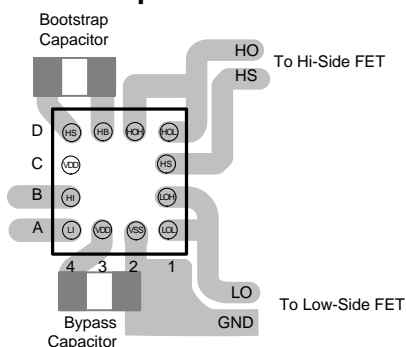
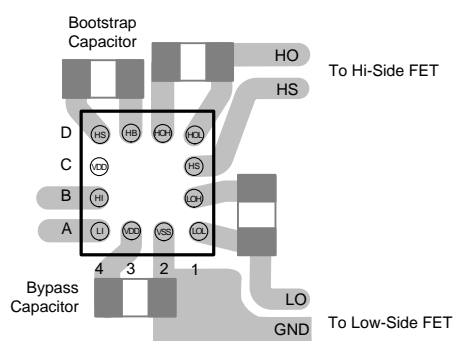

Figure 22. Layout Example Without Gate Resistors
Figure 23. Layout Example with HOH and LOH Gate Resistors
Figure 22 and Figure 23 show recommended layout patterns for the LMG1205. Two cases are considered: (1) without any gate resistors, and (2) with an optional turnon gate resistor. Note that 0402 surface mount package is assumed for the passive components in the drawings. For information on DSBGA package assembly, refer to Related Documentation.